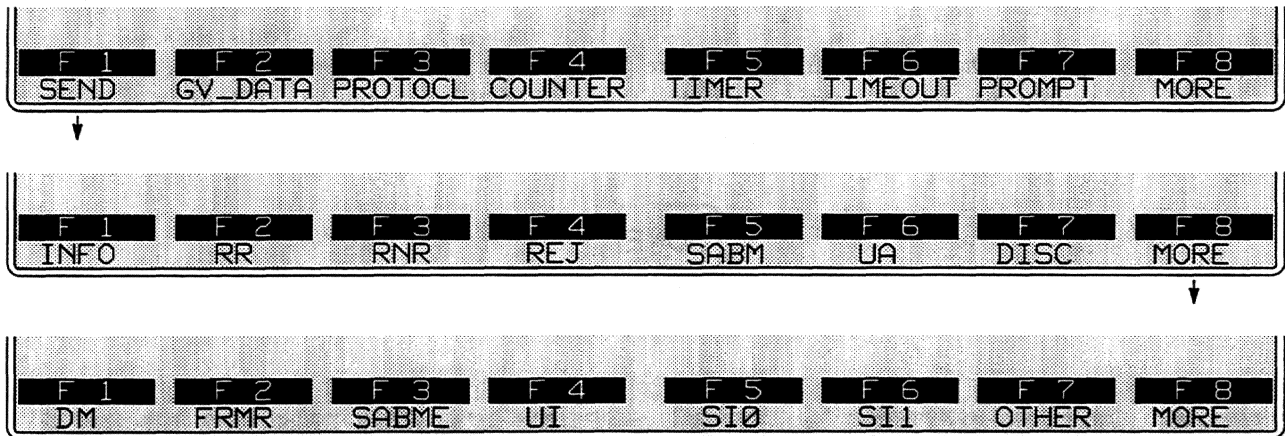

Figure 43-19 SEND actions always specify a frame type.
Press the softkey for **SEND** to access two racks of softkeys with names of frame types that may be named in **SEND** actions. All data generated by the LAPD package must be enclosed in a frame that is identified in a **SEND** action by *type*. (Only at Layer 1 can data be generated as a simple character string without any protocol building blocks.) The complete set of frame types is given in Figure 43-19.
5. *Other frames.* Any frame type may be entered in a *SEND* action as a hexadecimal value instead of by name. Press the softkey for *OTHER*, on the bottom rack in Figure 43-19.